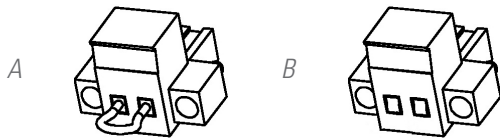

Fig. 16. Connector for external EPO.
- The connection of the UPS to the battery module must be made using the supplied cable hose, first connecting one end to the terminals or connector of the UPS and the other to the terminals or connector of the battery module. As an example, see Fig. 16.